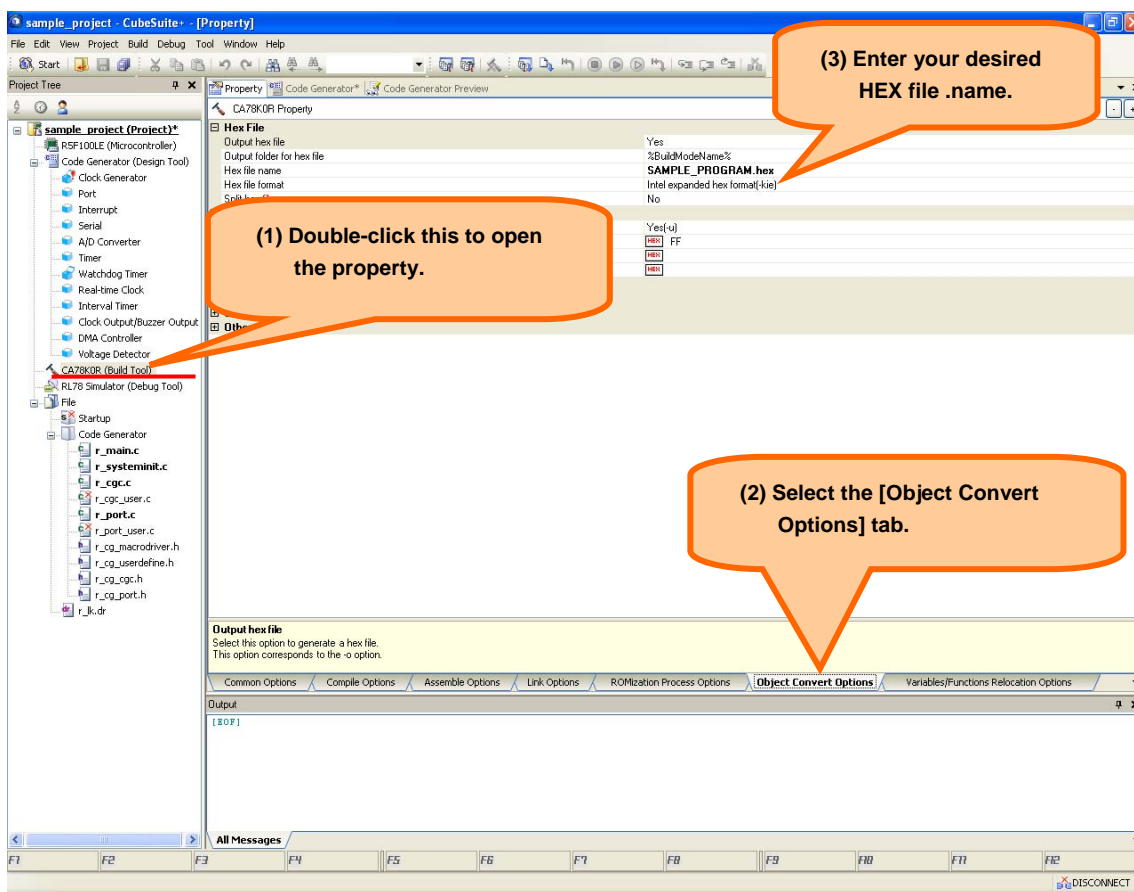

Figure 3-3 Object Convert Options Screen
- (1) Double-click [CA78K0R (build tool)] (shown with a red line in figure 3-3) in "Project Tree" shown on the left to display the [CA78K0R Property] screen.
- (2) After the [CA78K0R Property] screen is displayed, select the [Object Convert Options] tab on the bottom of the screen.
- (3) Enter your desired file name with the file extension ".hex" in the [HEX file name] property of the [HEX File] category. (By default, the same name as the project file is shown.)